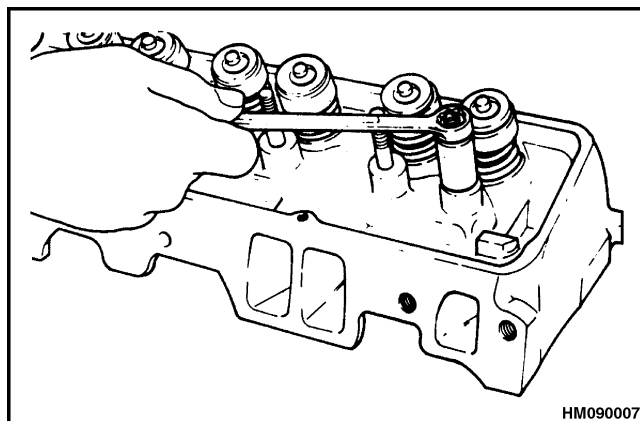

Figure 16. Rocker Stud Removal
1. Remove the old stud. Install a spacer, flat washer, and nut to the damaged stud. Use a wrench to remove the damaged stud. See Figure 16.